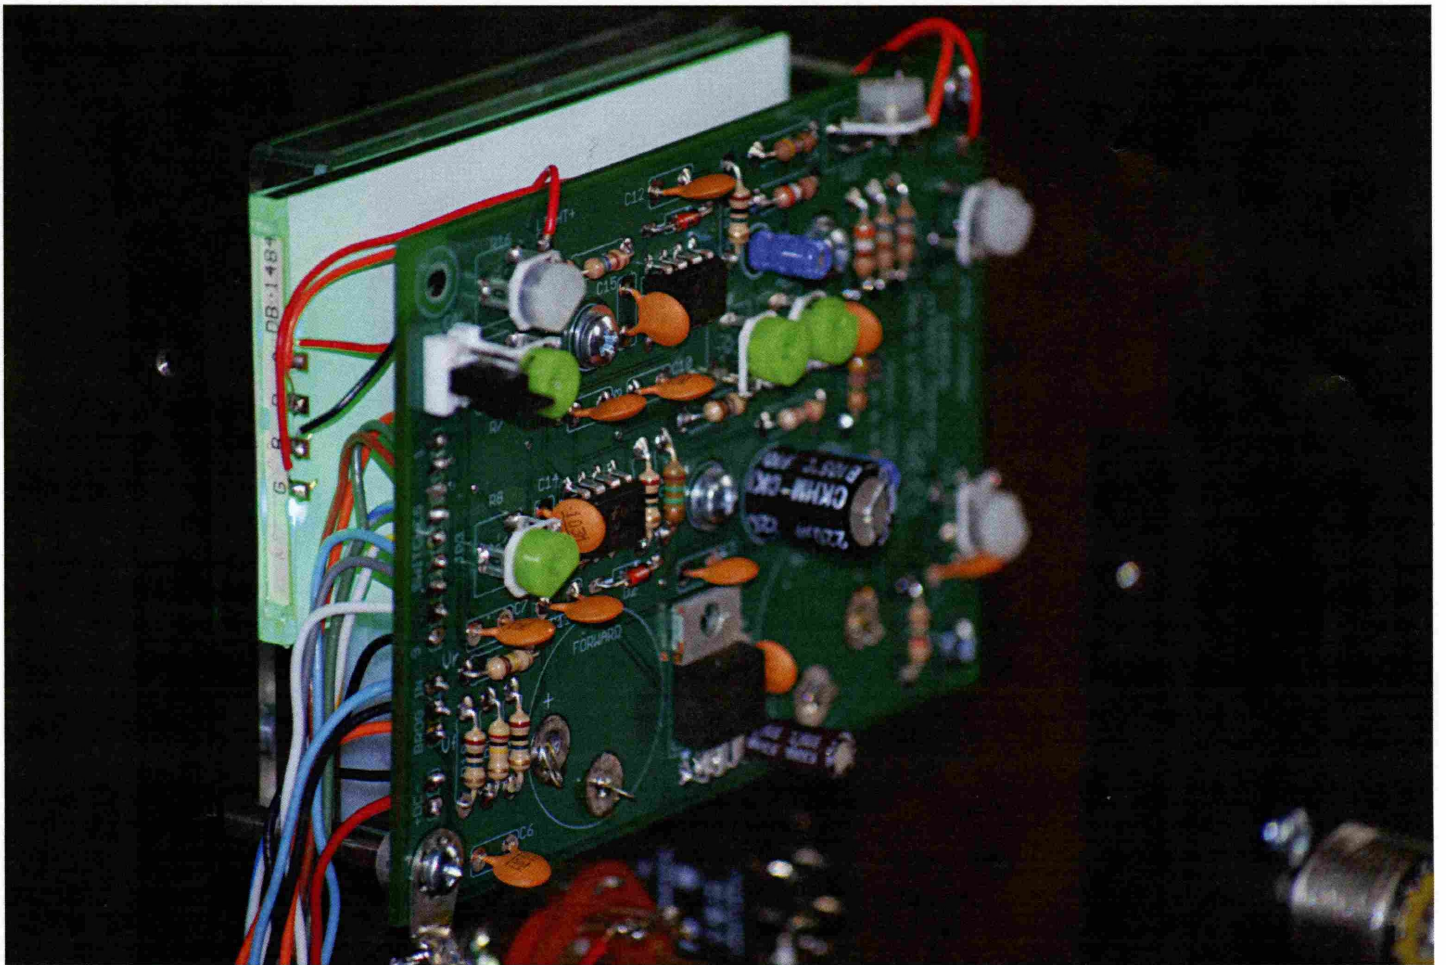

FIGURE 5
10. Locate the three "BRDG IN" solder pads on the edge of the wattmeter board. They are located just below JP3-9 and above the "DC -" pads. The wires in the next three steps will be inserted from the solder side and soldered on the component side of the wattmeter board (Figure 5).
The four backlight connections are clearly visible here. #28 wire is used for the connections to the wattmeter board. Figure 5 shows how the wires are routed and then brought around to the component side for connection to the wattmeter board.